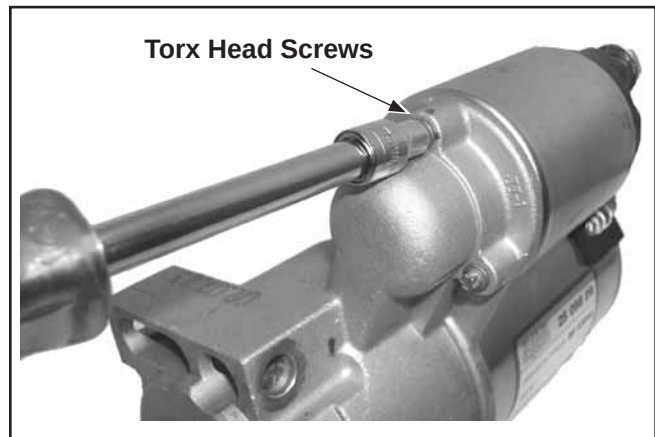

Figure 7-39. Removing Solenoid Screws.
2. Remove the three Torx head screws securing the solenoid to the starter. See Figure 7-39.